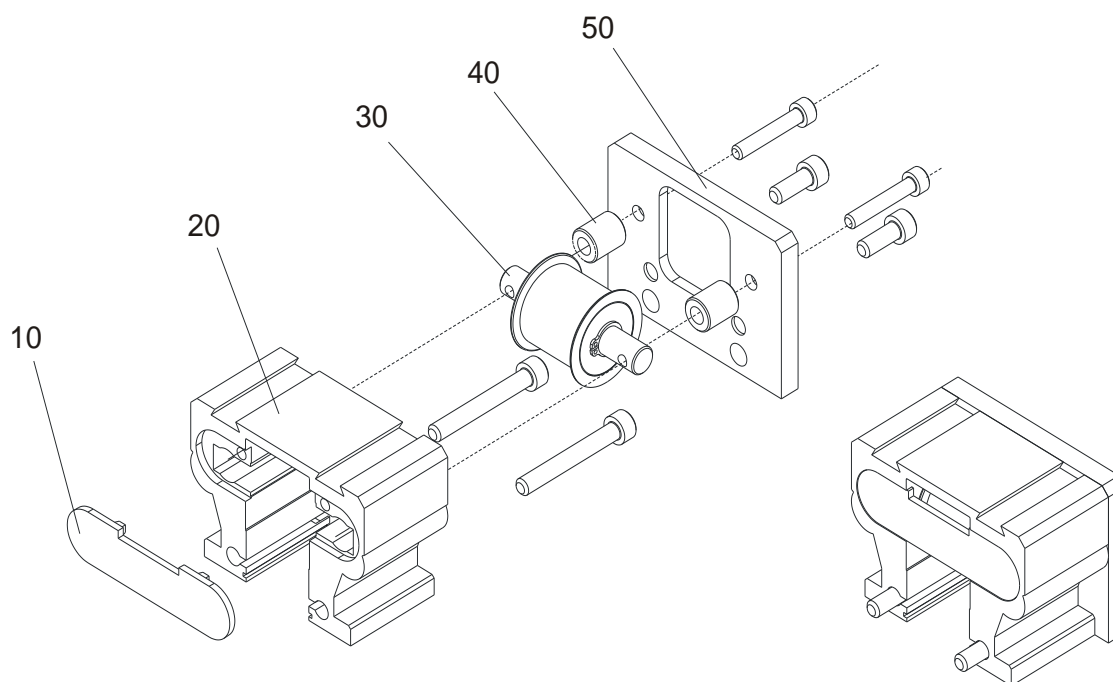

Figure 21: easyLINE, reversing unit exploded view
(see drawing item 40 in *Figure 21*, page 26)